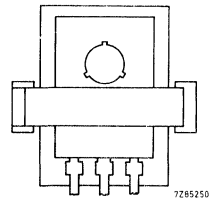

Fig. 6 Position of transistor (top view).
3. Push down the clip over the device until the long end of the clip snaps into the wide slot in the heatsink. The clip should bear on the plastic body (Fig. 6). Ensure that the device is centred on the mica insulator to prevent creepage.